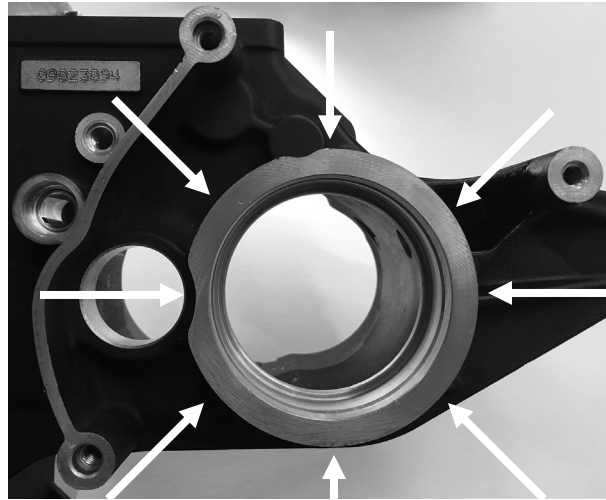

FIGURE 11 | APPLY HEAT AROUND THE MAIN DRIVE GEAR BEARING BOSS AREA
4. The tapered bearing adapter has a tighter press fit into the transmission case than the stock bearing. To ensure successful installation of the tapered bearing adapter and longevity of the installation tool, you must heat the transmission case as shown in figure 11. Use a MAP/propane torch or a heat gun as shown in figure 12.
5. Apply heat evenly around the boss of the main drive gear bearing bore from the outside of the case as shown in figure 11. DO NOT heat the boss from the inside of the case and keep heat away from the tapered bearing adapter that is staged and ready for installation. The bearing bore boss should be heated to at least 200°F. BAKER recommends using an infrared thermometer to verify that the case is adequately heated; see figure 13.